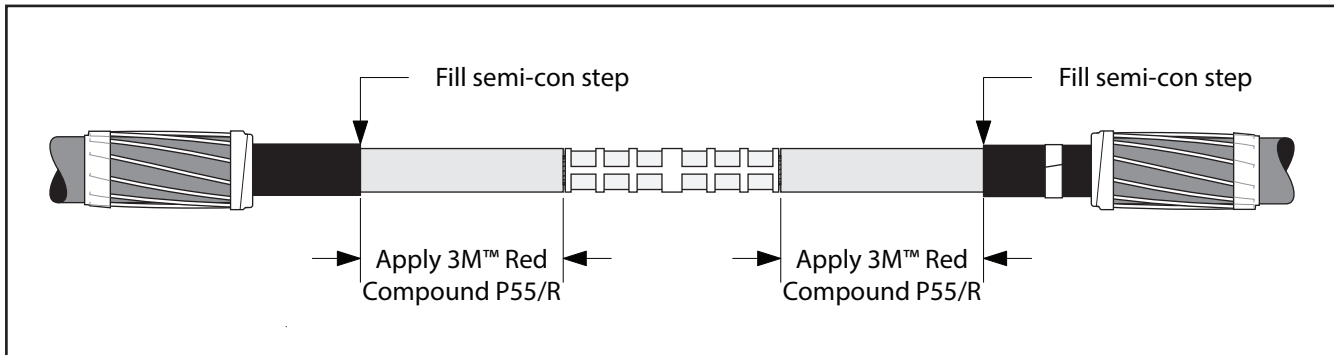

Figure 14
4.4 Apply 3M Red Compound P55/R on cable insulations, making certain to fill in edge of cable semi-con. **Do not use silicone grease** (Figure 14).